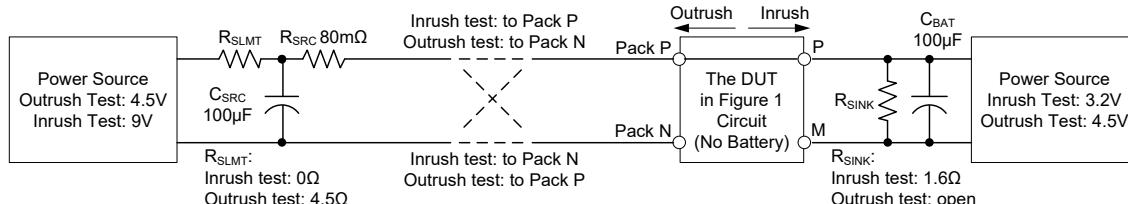

Figure 2. Test Set-Up for Pack P to Pack N Attachment Inrush/Outrush
- The device is tested after being installed on the circuit board in Figure 1. Connect a 3.2V supply and 2A sinking resistor R_{SINK} as showed in Figure 2 to the P and M for inrush test. Clip a 4.5V 5A supply for outrush test.